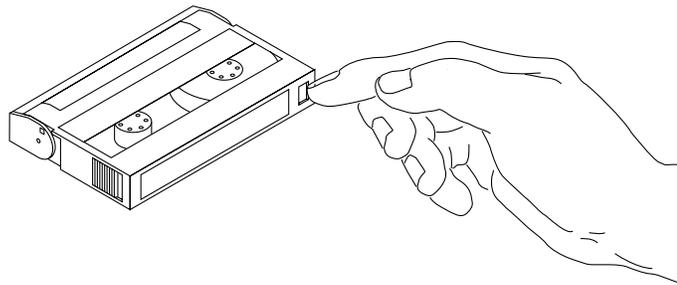

FIGURE 2-4 Setting the Write-Protect Switch
- Move the write-protect switch away from the edge of the tape cartridge (FIGURE 2-4).